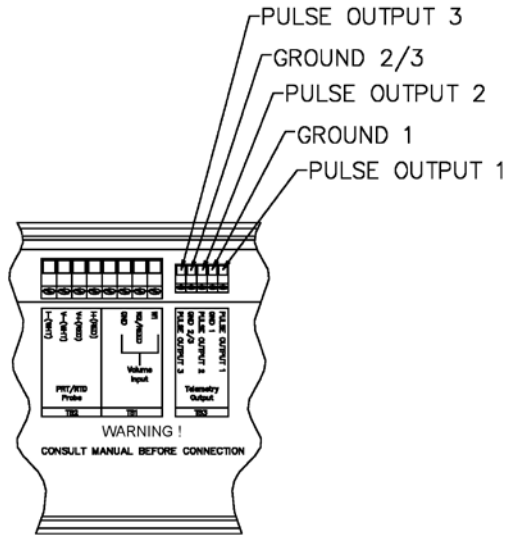

Figure 7 – Pulse Output Connections (TB3)
Figure 7 [Pulse Output Connection (TB3)] shows the connections for the pulse output. Other GE approved product, such as the Chatterbox (isolation unit) may be connected to the pulse outputs. Any equipment connected to the pulse output must be individually assessed to ensure that the system is safe. The manufacturer (GE) will not take responsibility for the overall safety of the system.